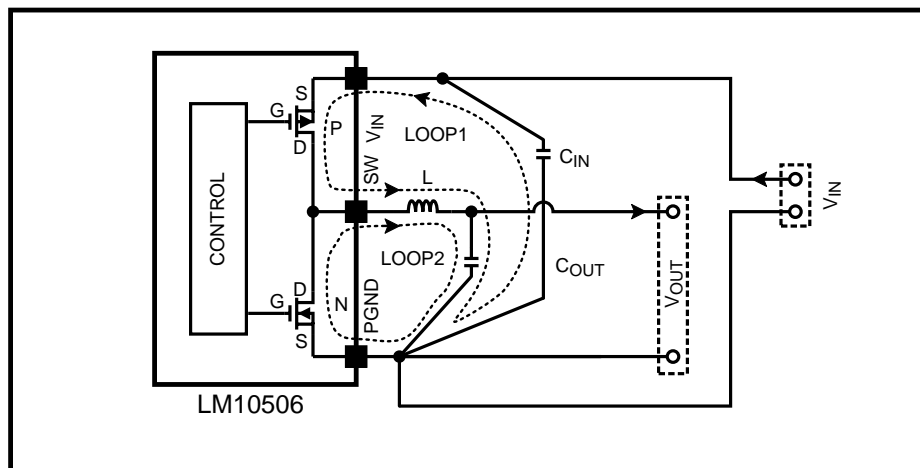

Figure 28. Schematic of LM10506 Highlighting Layout Sensitive Nodes
1. Minimize area of switched current loops. In a buck regulator there are two loops where currents are switched rapidly. The first loop starts from the C_{IN} input capacitor, to the regulator SWx_VIN pin, to the regulator SW pin, to the inductor then out to the output capacitor C_{OUT} and load. The second loop starts from the output capacitor ground, to the regulator SWx_GND pins, to the inductor and then out to C_{OUT} and the load (see Figure 28 above). To minimize both loop areas the input capacitor should be placed as close as possible to the VIN pin. Grounding for both the input and output capacitors should consist of a small localized top side plane that connects to $PGND$. The inductor should be placed as close as possible to the SW pin and output capacitor.